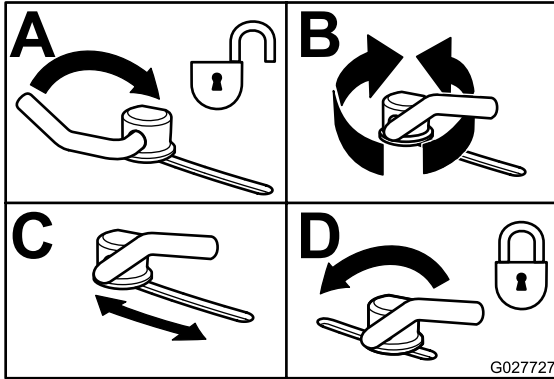

Figure 30
3. To adjust the cam locks, swing the lever up to loosen the cam lock (Figure 30).
- Swing the lever back over to tighten the baffle and cam locks (Figure 30).